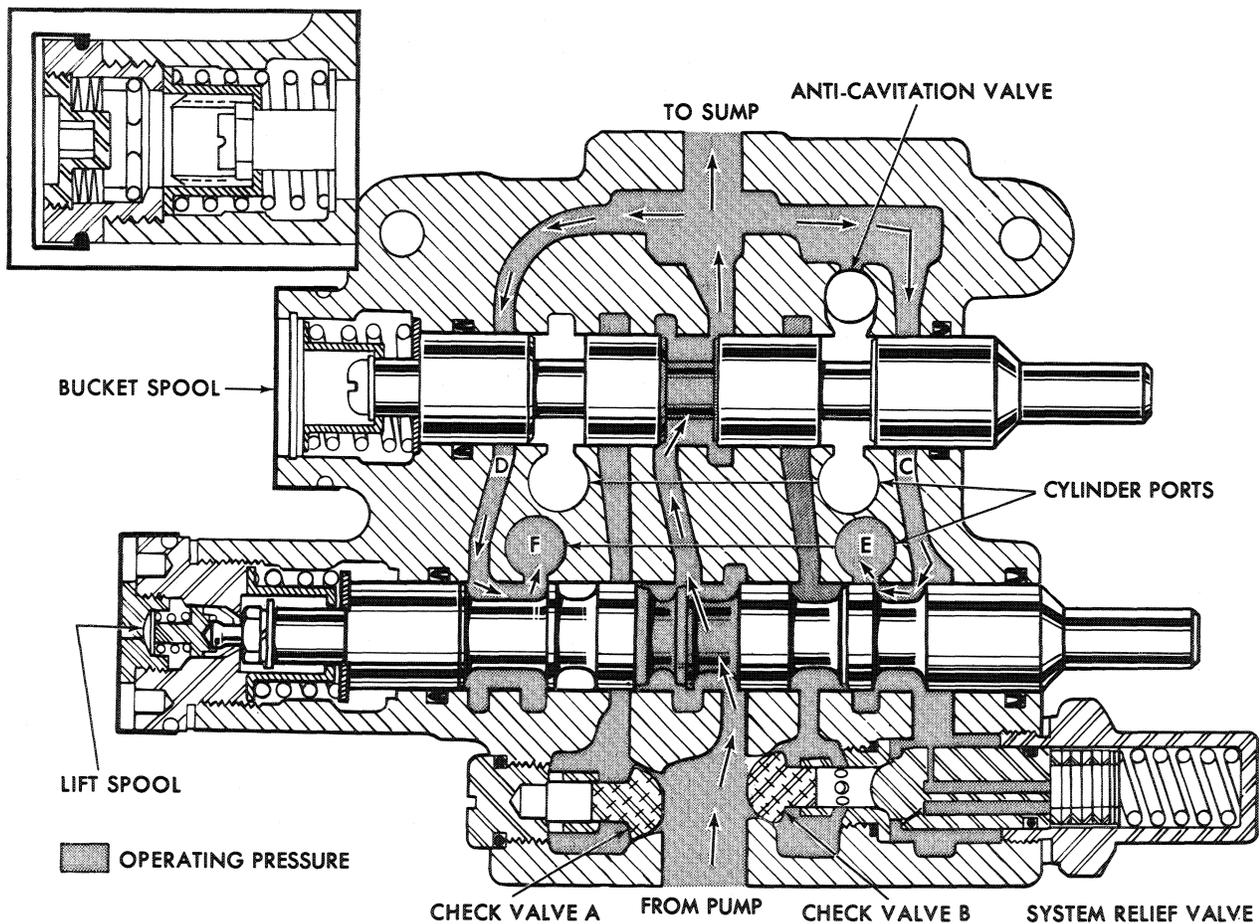

Figure 16
When the lift spool, Figure 16, is moved completely left, the detent mechanism engages to hold the spool in this position. With the spool in this position, oil is permitted to flow freely between the rod end and the piston end of the lift cylinders as illustrated. The pump oil also flows directly through the open center (as if in neutral). Oil will be forced from either end of the cylinder as external forces are applied. The bucket will rest on the ground and the loader lift arms will float or follow the ground contour. There will be no down pressure or lifting pressure.
Check valves (A) and (B), Figure 16, are located in both high pressure passages of the control valve. When a hydraulic cylinder is under load and a valve spool is moved to actuate the cylinder, there would be a momentary tendency for oil to flow in the opposite direction. The check valves keep the circuits closed until there is sufficient flow and pressure to overcome the load on the cylinders.